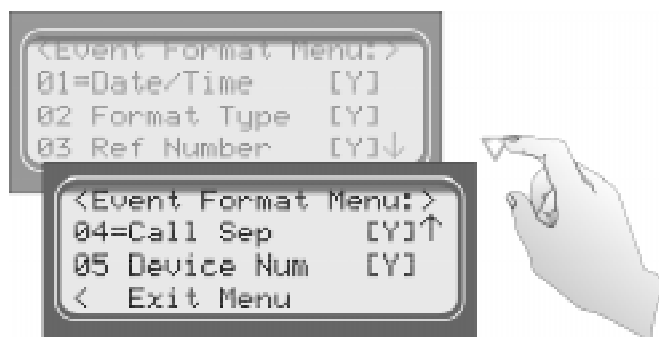

Figure 4-17 Event Format Menu Items
4. Press  for event format menu items. (See Figure 4-17.)